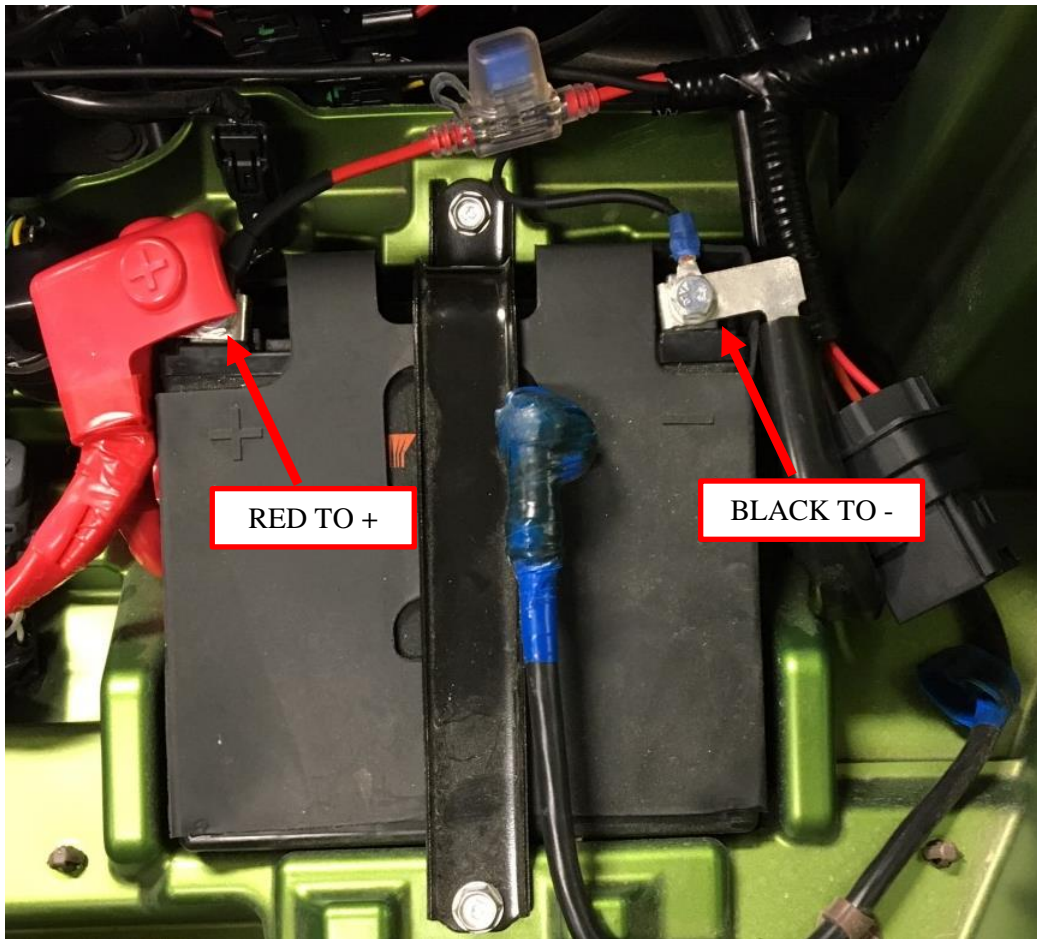

Figure 12: Battery cable connections.
10. Connect the chassis harness battery cables to the battery. Remove the battery bolts from each terminal as you connect the cables, and replace the bolts with the provided M6 x 1.0 x 14 mm battery bolts to clamp the cables on top of the existing cables. Connect the red harness wire to the terminal with the existing red battery cable (+ 12V). Connect the black harness wire to the terminal with the existing black battery cable (- 12V). See Figure 12.